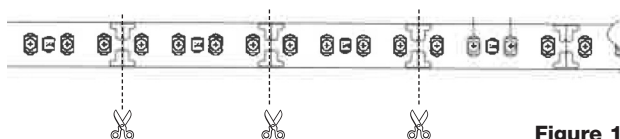

Figure 1
2. Shorten LED board if necessary (Fig. 1).
LED boards can be disconnected in each case after **four** LEDs (3.33 cm) (Fig. 1).